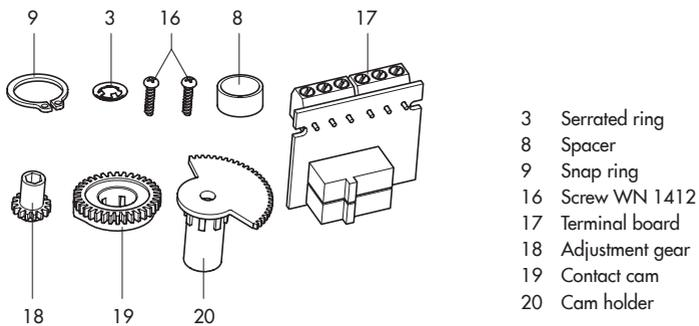

Fig. 10: Retrofit kit: order no. 1402-0898
- Retrofit kit: order no. 1402-0898 (see Fig. 10)